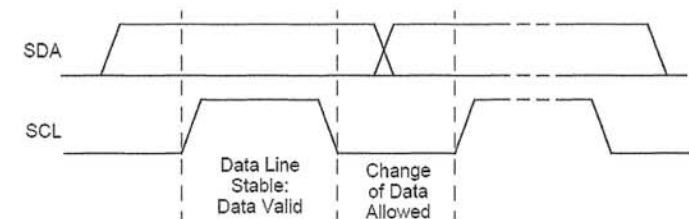

Figure 5-7 I²C Bit Transfer
- During data transfer, the data line must remain stable whenever the clock line is high. Changes in the data line when the clock line is high will be interpreted as control signals (see **Figure 5-7**).